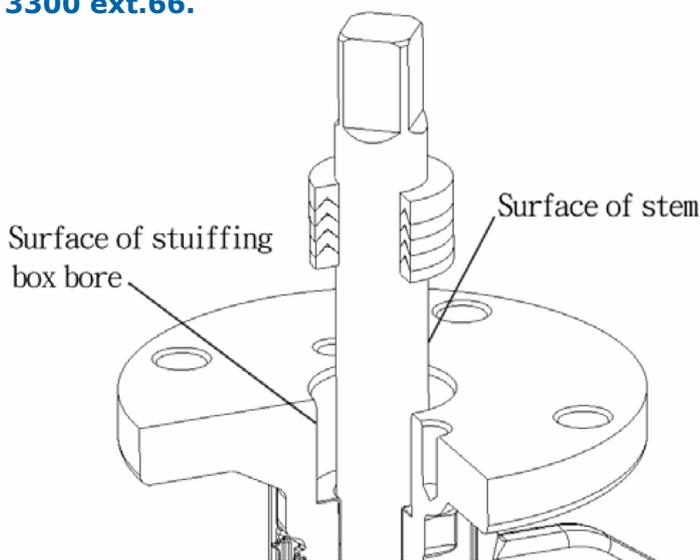

Fig. 13
11.3 Inspect the drive shaft, bore of the stuffing box, and the gland follower. These surfaces should be relatively scratch free(Fig.13). If there is any damage, polish the surface to 32 rms finish. If any part has severe damage, contact Dansk Ventil Center A/S, Phone +45 7572 3300 ext.66.
11.4 Install each new ring of packing, use the gland follower to push each ring of packing evenly into position after starting it in the stuffing box bore. Stagger the splice-joints of each packing ring so they are as far as possible from each other (see example above). Usually, rotating each ring until the splice is at 90°C from the previous splice is sufficient (Fig 13).